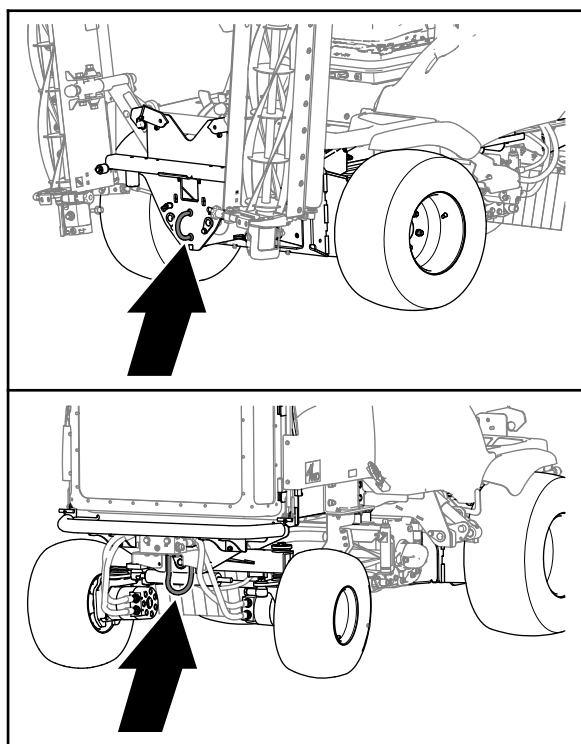

Figure 32
5. Connect a **rigid** tow bar between the front tow ring of the machine and the tow vehicle (Figure 32).